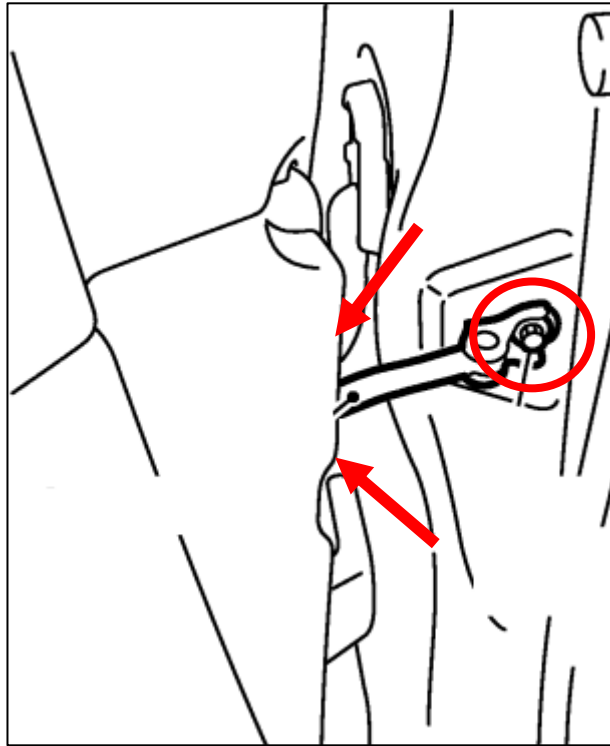

Figure 33
14. Open the door as wide as you can. Remove the (3) three Bolts in the Door securing the Check Link. *Figure 33.*